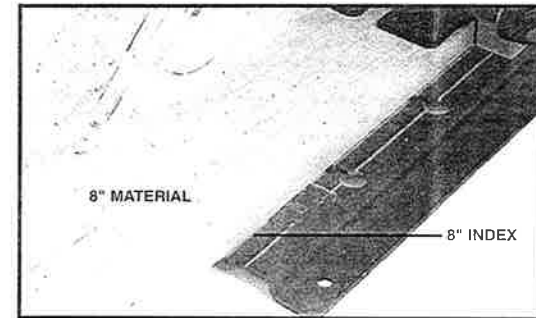

Fig. 10
3. To position workpiece for RIGHT cut, place the workpiece into machine (see Fig. 10) so that its RIGHT edge aligns with the RIGHT index rib (corresponding with the material width). Rotate work clamp lever counterclockwise to secure workpiece to machine.